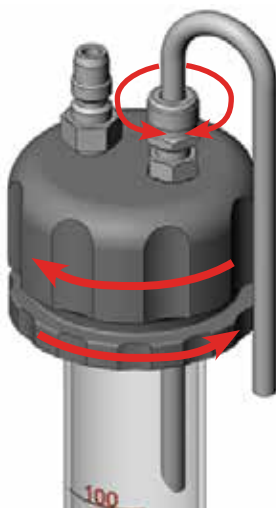

Figure 17 Residue Tube Cap Assembly
5. Loosen the **overflow tube fitting** by turning the knurled nut counterclockwise (Figure 17).